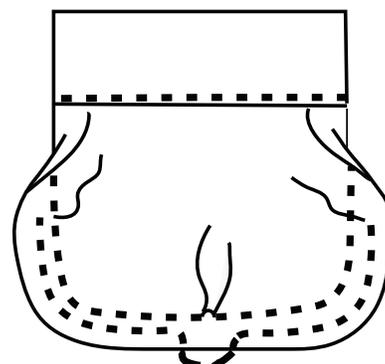

Figure 7
- Sew a row of gathering stitches on the $\frac{3}{8}$ -in. line around the bottom of the pocket (Figure 7).